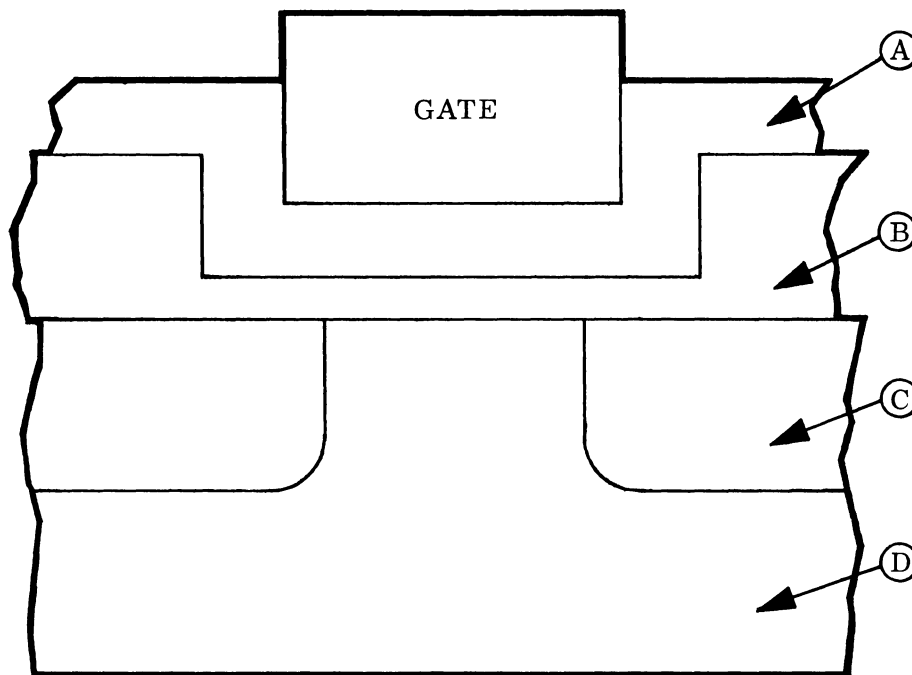

FIGURE 4
6. Identify the lettered items in figure 4 (i.e., metal, N-type material, oxide, etc.). Assume the illustrated cross-section shows part of an MNOS P-channel enhancement MOSFET.